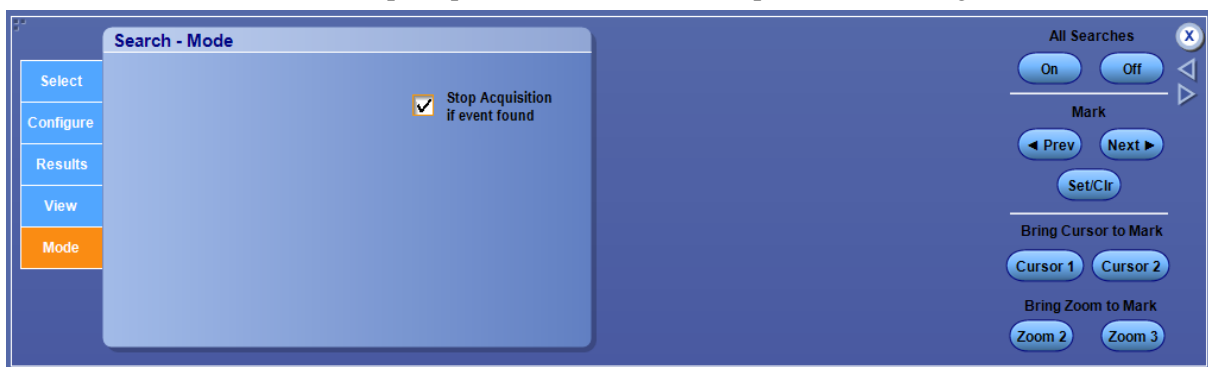

Figure 26 Search-Mode tab to Stop Acquisition when a PID event occurs
9. Go to Mode tab. Check “Stop Acquisition if event found” option. Refer to Figure 26.